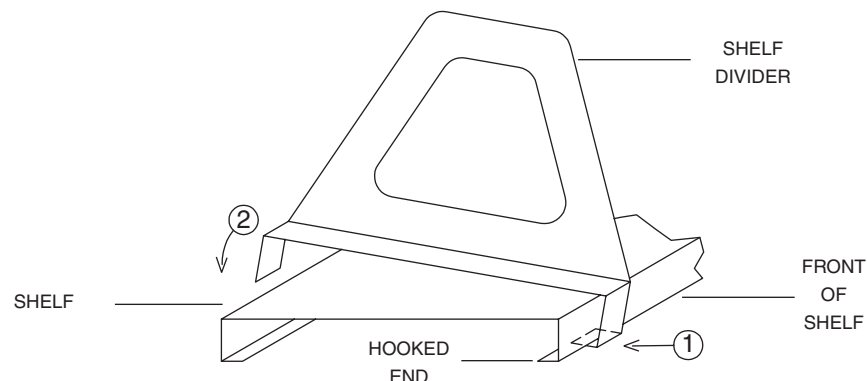

FIG. 3
The "shelf divider" can be located at any point along the shelf (Figure 3).
4. From under the cabinet, install (4) #8 x 3/8" self-tapping screws through the slots in the side panel support flanges (Figure 3). **DO NOT** tighten the screws down completely.
5. At the lower edge of the cabinet, install (2) #8 x 3/8" self-tapping screws through the back and into the shelf (Figure 3). **DONOT** tighten the screws down completely.